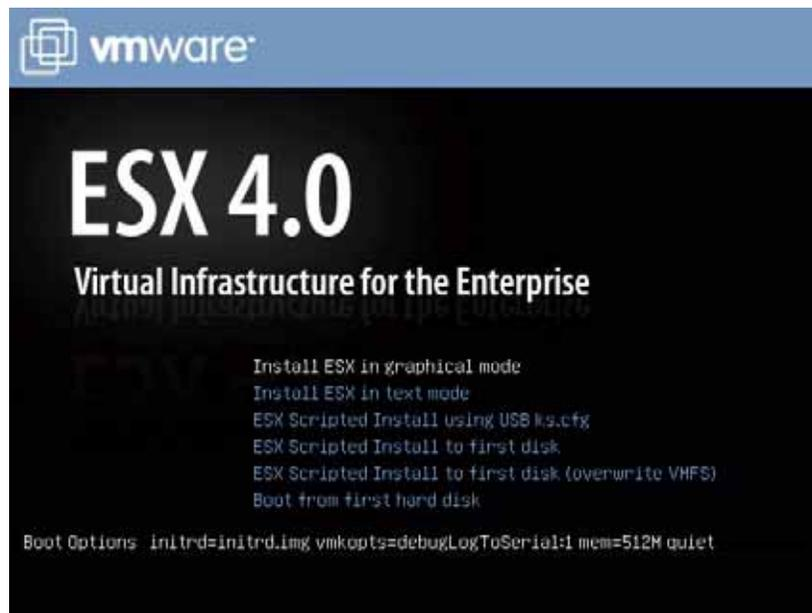

Figure 22 ESX 4.1 Installer — Entering Boot Options
- Step 5 With the *Install ESX in graphical mode option* highlighted, press *F2* key to enter edit mode for the Boot Options. Figure 22 shows the *Boot Option* with the default kernel memory shown (512M).